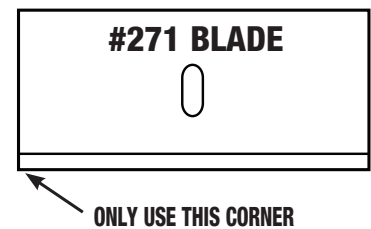

Fig. 3
2. Set blade onto blade slide, being careful of orientation of edge bevel (Fig. 3).